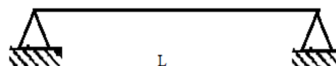

Figure 11
- (b) Consider the simply supported beam shown in Figure 11. Let the length $L = 1\text{ m}$, $E = 2 \times 10^{11}\text{ N/m}^2$, area of cross section $A = 30\text{ cm}^2$, moment of inertia $I = 100\text{ mm}^4$, density $\rho = 7800\text{ kg/m}^3$. Determine the natural frequency using lumped mass matrix approach. [7M]